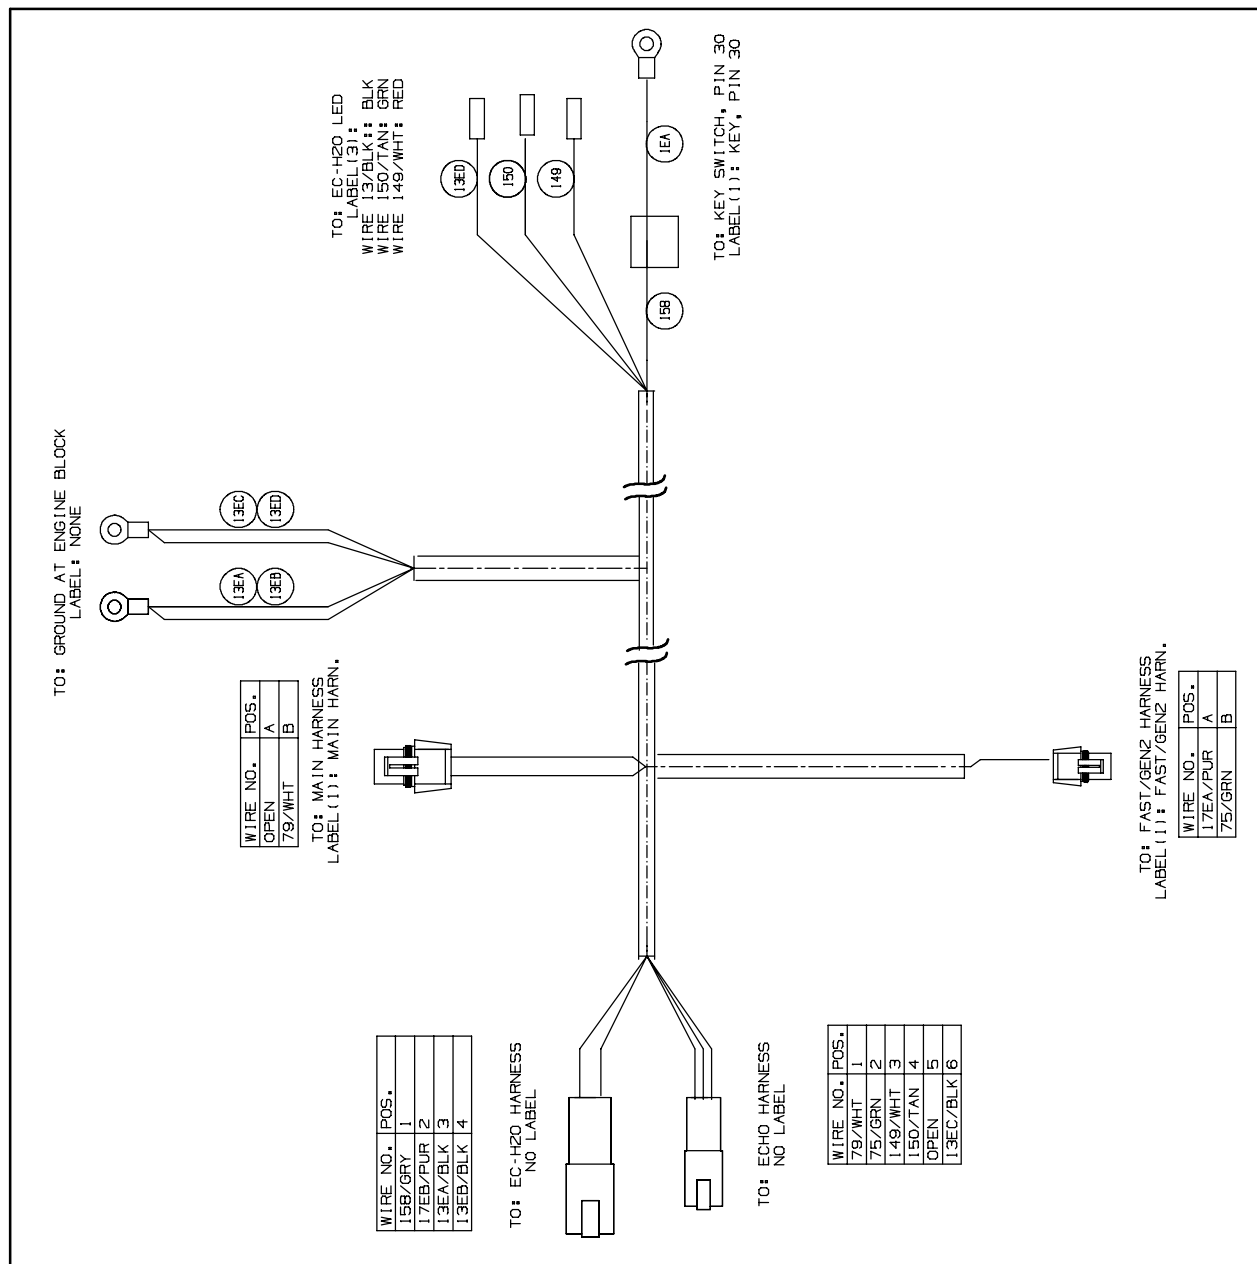

FIG. 11
46. Route the *ec-H20* harness ground lead to the engine ground and connect the ground lead to the engine ground. Refer to Fig. 11.
49. Slide the *ec-H20* harness ignition switch lead through the bottom of the boot and connect the ignition lead to the PIN 30 terminal on the ignition switch. Refer to Fig. 11.
51. Connect the *ec-H20* harness to the LED light. Refer to Fig. 11.
59. Connect the *ec-H20* harness to the *ec-H20* assembly. Refer to Fig. 11.